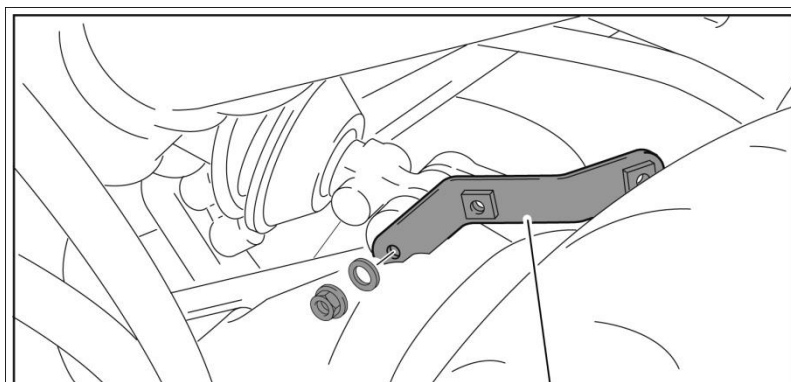

FIGURE 1
- 1- In order to mount the rear hugger, it is needed to mount previously the hardware supplied. On the right side, remove the nut that tightens the shock-absorber to the swing arm, and insert the hardware (3) as the figure 1 shows. Tight the nut leaving the hardware rest on the swing arm.